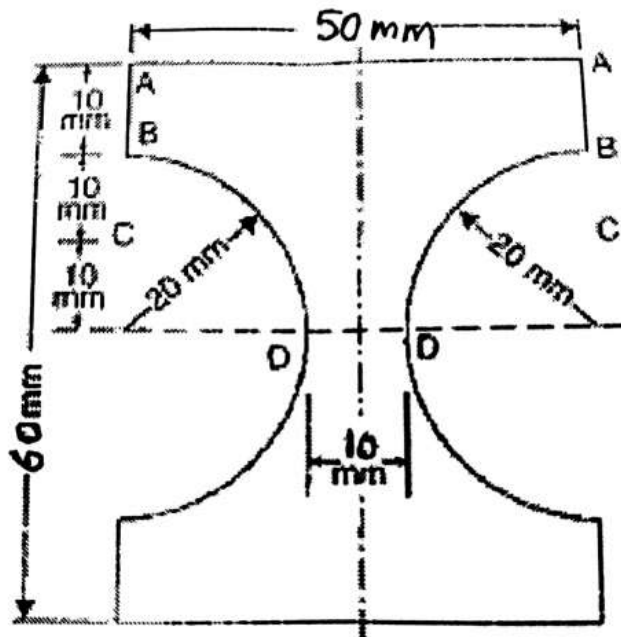

Fig.4
- Q.5 a) For the section shown in the fig.4. Determine the average shearing stresses A,B,C and D for a 12 kN shearing force of 20 KN. Draw also the shear stress distribution across the section.